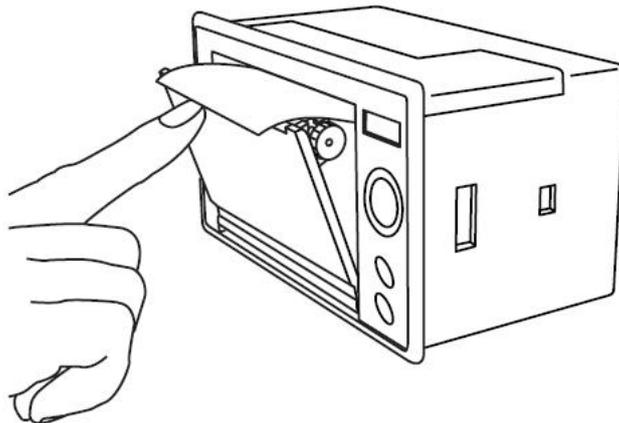

Figure 6.3 Close the front cover
(3) Pull out the some of the paper, in the middle position, close the front cover, see Figure 6.3.